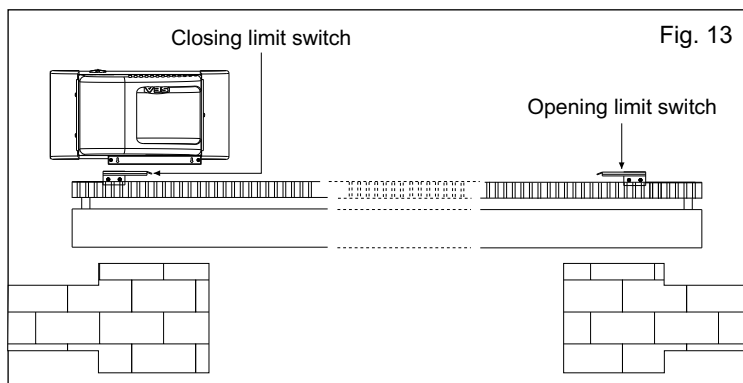

Fig. 13
7.1. To set up and adjust the limit switches in opening, follow the instructions written here (Fig. 13):
7.2. To set up and adjust the limit switches in closing, follow the instructions written here (Fig. 13):